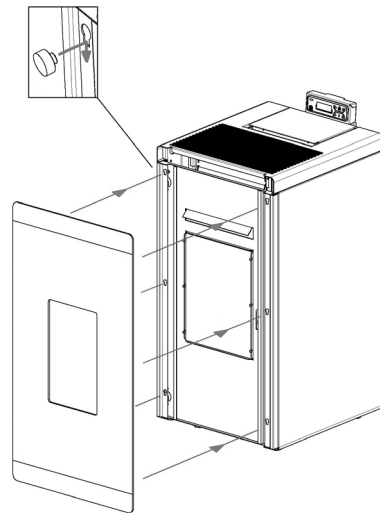

Fig. 42 - Position the glass
- Position the glass on the metal door: hook the screws' heads on the door's holes (see **Fig. 42**).